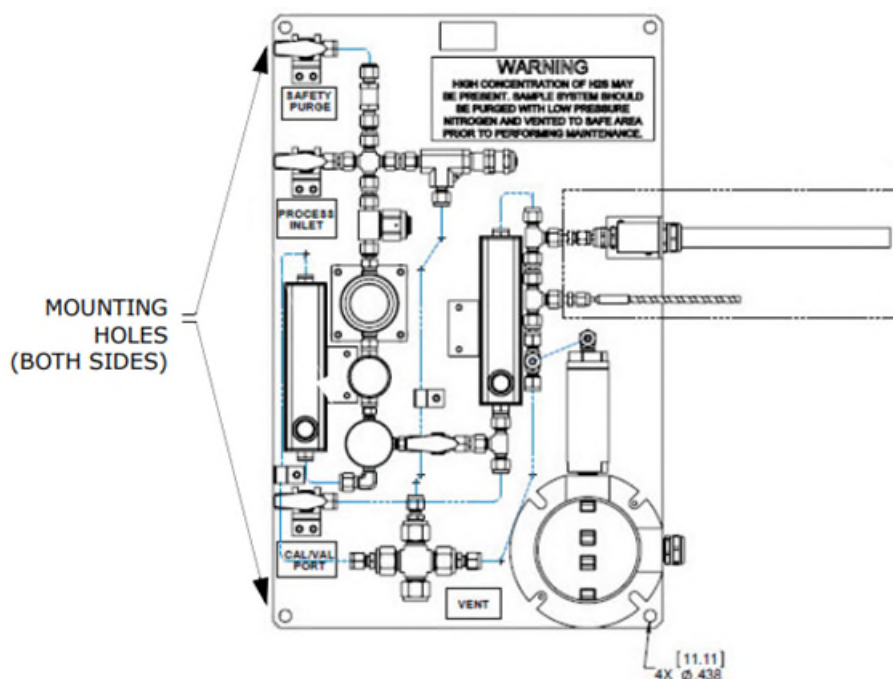

Figure 5. SCS remote panel mounting locations
3. Locate the mounting holes on your unit. Refer to Figure 5 and the system drawings in Appendix A.